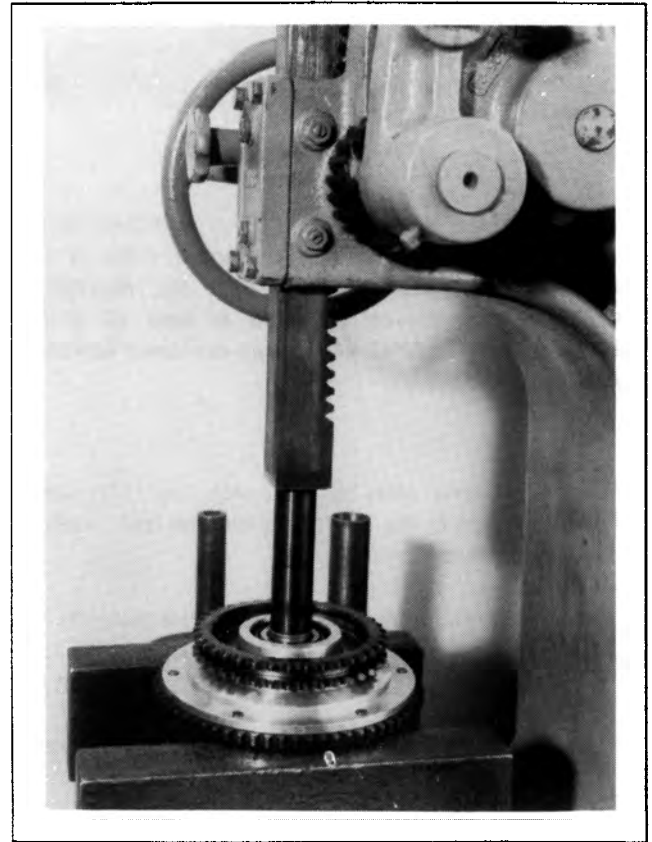

Figure 6-34. Pressing Clutch Hub From Bearing
3. See Figure 6-34. Press clutch hub from inner bearing race with arbor press.